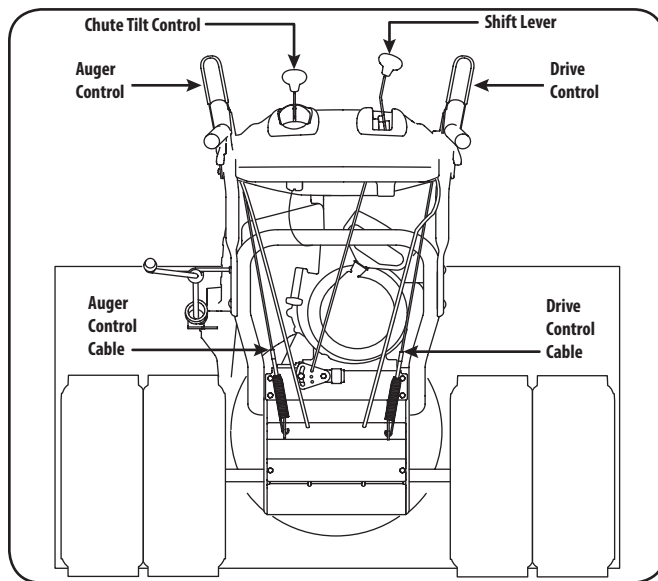
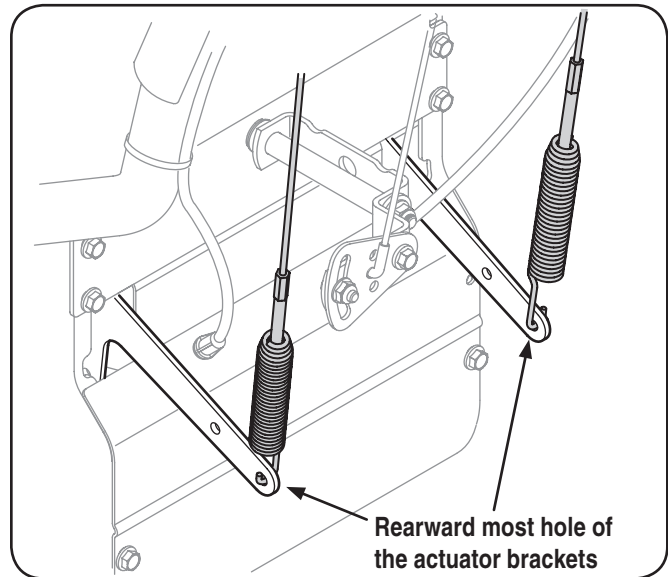

Figure 3-10
Figure 3-11
4. Looking beneath the handle panel, check that all of the cables (steering, auger, and drive) are properly routed and not pinched or kinked. Make certain the springs at the lower end of the auger and drive cables are securely hooked into their respective actuator bracket. See Figure 3-11, later in this section.
When the auger control is released and in the disengaged "up" position, the cable should have very little slack. It should NOT be tight. Refer to Figure 3-10.
- With the engine turned off, move the shift lever into sixth (6) position. Refer to Figure 3-10.
- From beneath the handle, pull downward on the appropriate cable and unhook the spring found on the end of the cable from its respective actuator bracket. Refer to Figure 3-10 and Figure 3-11.